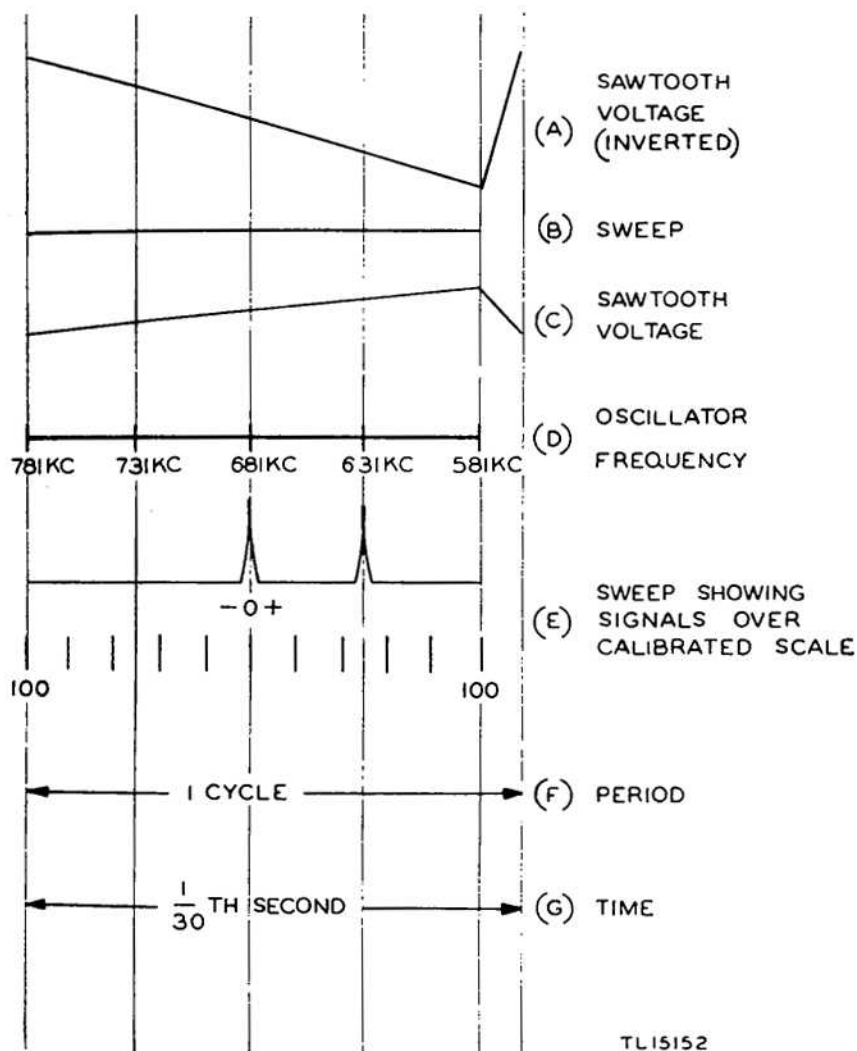

Figure 8. Time, voltage, and frequency relationships.
inverted saw tooth to be applied to the horizontal deflection circuit of the oscilloscope. Thus, at the same instant that the saw tooth (fig. 8(C)) is changing the oscillator frequency from 781 to 581 kc (fig. 8(D)), the inverted saw tooth (fig. 8(A)) steadily moves the oscilloscope electron beam from left to right across the screen tracing a straight line (fig. 8(B)). Since this trace line is thereby synchronized with the oscillator frequency sweep, any position on the line indicates the oscillator is tuned to a definite frequency (fig. 8(D)). When the oscillator is tuned to 681 kc (middle of its frequency sweep), it means the oscilloscope beam has also reached the middle of its horizontal trace.
(8) Assume now that the companion receiver is tuned to a 3,000-kc signal. This signal is mixed with the 3,455-kc signal from the h-f oscillator of the companion receiver to produce the 455-kc intermediate frequency. This latter frequency will pass through the companion receiver to the loudspeaker. It is also fed through the band-pass amplifier to the panoramic mixer. When the h-f oscillator reaches the 681-kc point of its cycle, it mixes with this 455-kc signal to produce the 226-kc intermediate frequency of the panoramic receiver. This burst of signal in the i-f system is detected and applied to the oscilloscope vertical deflection plates producing the peak at the center of the scale (fig. 8(E)). Thus the center ( $- 0 +$ ) mark on the scale always represents the frequency to which the receiver is tuned, and the calibrations ( $\pm 100$  kc) above and below this point indicate signals which are present on the antenna but are not being reproduced through the loudspeaker. Now, if at the same time the 3,000-kc signal is received, another signal is present on 3,050 kc, this frequency mixes with the h-f oscillator of the companion receiver to produce a 405-kc i-f. Since the companion receiver i.f. is sharply tuned to 455 kc, this signal never reaches the loudspeaker. However, it passes through the special band-pass amplifier to the panoramic mixer. When the h-f oscillator reaches the 631-kc point (fig. 8(D)) of its cycle, it beats with the 405-kc signal to produce the 226-kc frequency of the panoramic i-f system. This burst of i-f energy is detected and causes a peak to appear on the screen at the +50-kc point (fig. 8(E)), the electron beam having reached in this time a point midway between the center and the right side of the screen. The 3,050-kc signal, therefore, is not heard but its presence is indicated on the panoramic screen.
**NOTE:** The saw-tooth voltage waveforms shown in figure 8(A) and 8(C) are theoretical representations. The linearity (rate of change) of actual saw-tooth voltages used in practice only approaches these ideal wave-forms. The amplitudes of the two saw-tooth voltages shown in figure 8 have a ratio of 2 to 1. Actually, the amplitude of the saw-tooth voltage applied to the horizontal plates of the cathode-ray tube in the adaptor is approximately 20 times as great as the saw-tooth voltage applied to the grid circuit of the reactance modulator.
(9) By similar reasoning it will be seen that any signal within the 200-kc bandwidth of the special band-pass amplifier will pass through the i-f amplifier of the adaptor at the correct time to appear on the screen in its proper relationship to other signals.
(10) Figure 8 shows one complete cycle of operation. This cycle is periodic and repeats approximately 30 times a second.